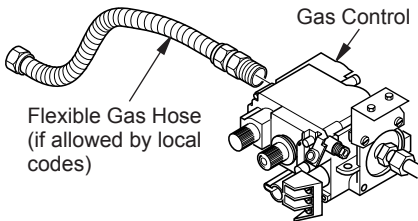

Figure 11 - Attaching Flexible Gas Hose to Heater Gas Regulator
1. Apply pipe joint sealant lightly to male threads of gas fitting (provided). Connect approved flexible gas hose to inlet side of gas control (see Figure 11).